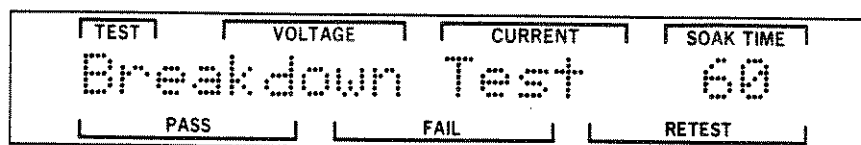

Figure 3-94. Breakdown Test in Progress Screen
STEP 18. Press the RIGHT pushbutton to initiate the Breakdown test. The display should indicate the voltage that is being used for the test in progress. This voltage starts at the selected Stress Voltage and increases in 10 volt steps to the Maximum Voltage. An example of this is shown in Figure 3-94.